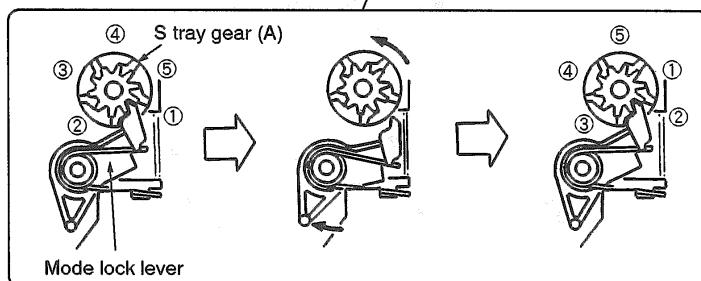

Figure 2
2. Engage the claw of mode lock lever with the tooth of S tray gear (A). (Refer to figure 2.)
4. If the play is more than .1mm, unlock the draw lever. Then, rotate the S tray gear (A) in the direction of arrow with lifting a small amount and engage the mode lock lever with the block. (Refer to figure 2.)